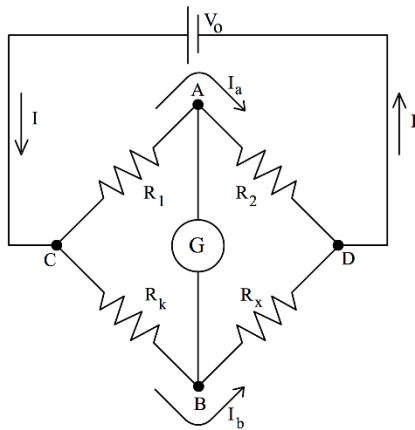

Fig.1. Schematic of a Wheatstone Bridge
$\Delta R_x$ , is the entire signal. The bridge serves to “balance out” the signal due  $R_x$ , leaving only the signal due to  $\Delta R_x$ . To show that  $V_{AB} \propto \Delta R_x$ , we consider Fig.1, and note that  $V_{CD} = V_0$ . We assume that the galvanometer is a perfect voltmeter, so that no current flows through it, even when the bridge is not balanced. We also assume that the bridge has been balanced with the sample resistance at an initial value of  $R_{x0}$ , so that  $R_{x0} = R_k(R_2/R_1)$ . Then we consider what happens to  $V_{AB}$  when the sample resistor is changed by a small amount to a new value  $R_x = R_{x0} + \Delta R_x$ . Applying Kirchhoff's Voltage Law and Ohm's Law to the upper and lower arms of the bridge, we have
- Consider the circuit shown in Fig.2 (not Fig.1) and assume that the galvanometer acts like an ideal voltmeter (with infinite internal resistance). Recall that the total resistance of the Ni-Cr wire is  $2\Omega$ . If  $R_K$  and  $R_X$  are both very, very large compared to  $2\Omega$ , how much current flows through the Ni-Cr wire?
- (Counts as 3 questions)** A Wheatstone Bridge such as in Fig. 1 has a  $V_O = 10.0V$ . With  $R_K = 5.00\Omega$  and the unknown resistor  $R_X$  at room temperature, the bridge is balanced with  $L_1 = 34.0\text{cm}$  and  $L_2 = 66.0\text{cm}$ . What is the value of  $R_X$ ? While still attached to the bridge, the unknown  $R_X$  is placed in an oven, which raises its temperature by  $33.0^{\circ}\text{C}$ . The value of